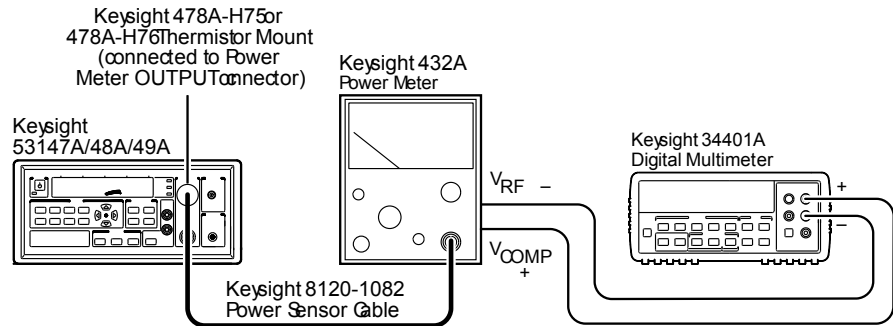

Figure 1-11 Power Meter Reference Level Test Setup
- 3 Round off the resistance reading to two decimal places and keep a record of this value as R. It is the internal bridge resistance (R) of the Keysight 432A Power Meter (this should be approximately 200.3 ohms).
- 4 Connect the Keysight 478A-H75 or 478A-H76 Thermistor Mount to the Keysight 53147A/148A/149A Power Meter **OUTPUT** connector, as shown in Figure 1-11.